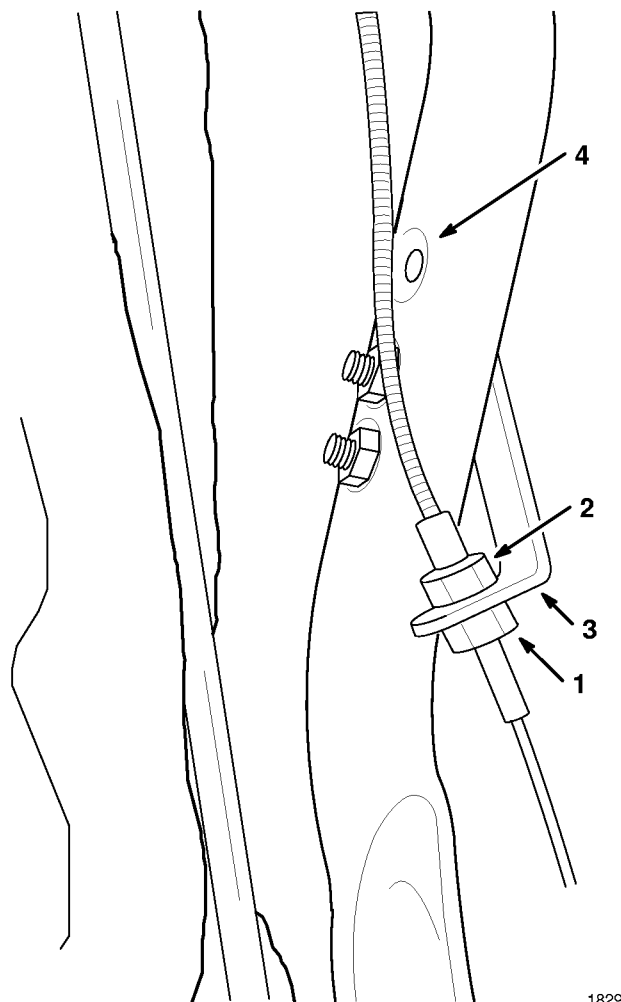

Figure 30
- Loosen the lower nut on the bottom side of the bracket (Fig. 30).